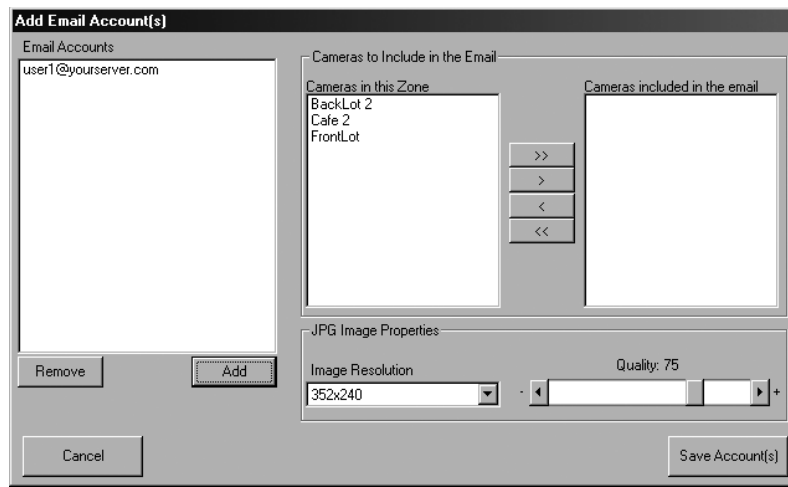

Figure 28. Add Email Account(s) Window
- **Email Configuration:** Allows you to select e-mail addresses that receive messages when an alarm event happens in a zone. To identify and test the mail server, refer to the *Email Notification* on page 35. To select e-mail addresses, click Add Email Account to open the window shown in Figure 28 on page 33. Add e-mail addresses as desired, and then select cameras from the zone. For each selected camera, a JPEG image of the alarm event will be attached to the e-mail messages; you can adjust the image resolution and quality using the slider bars under JPEG Image Properties.